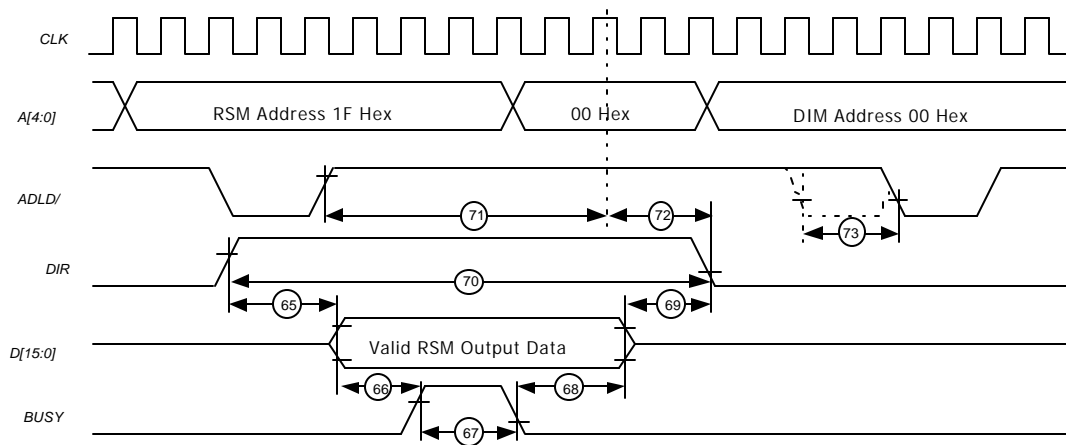

Figure 39. RSM/DIM Timing - Output Cycle
**External latching circuitry may be required if all 32 output bits are used. Data lines $D[15:0]$ are used both as an input bus and an output bus in RSM/DIM. An output cycle is indicated to external logic by the DIR signal being held HIGH. Output cycles may overlap with input cycles because serial bus messages are received asynchronously. If an output cycle overlaps with a Status pair input cycle, no delay is created and the input cycling continues. However, if an output occurs after the beginning of a DIM cycle but before the $ADCON$ signal is asserted, a proportional delay (equal to Output passed dashed line in Figure 39) will be present in the DIM cycle.